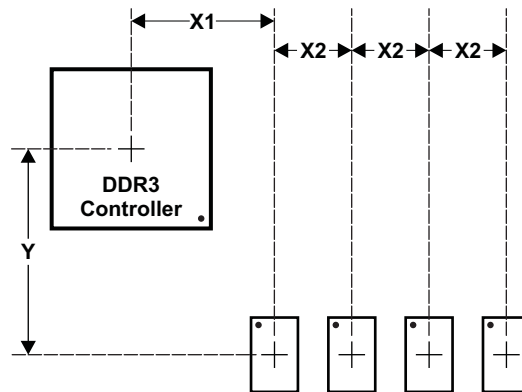
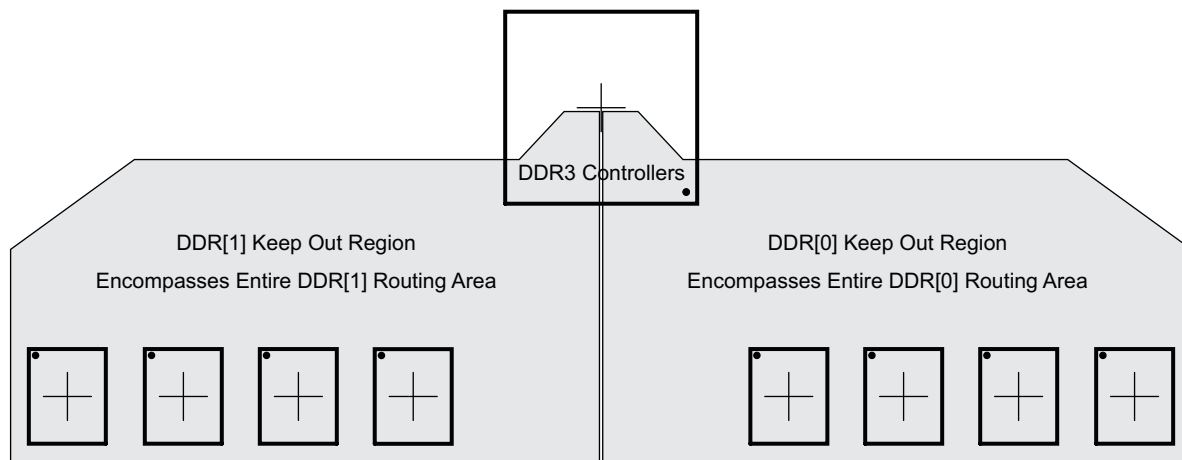

Figure 9-15. Placement Specifications
Figure 9-16. DDR3 Keepout Region
Figure 9-15 shows the required placement for the processor as well as the DDR3 devices. The dimensions for this figure are defined in Table 9-19. The placement does not restrict the side of the PCB on which the devices are mounted. The ultimate purpose of the placement is to limit the maximum trace lengths and allow for proper routing space. For a 16-bit DDR memory system, the high-word DDR3 devices are omitted from the placement.
- (1) For dimension definitions, see Figure 9-15.
- (2) Measurements from center of processor to center of DDR3 device.
- (3) Minimizing X1 and Y improves timing margins.
- (4) w is defined as the signal trace width.
- (5) Non-DDR3 signals allowed within DDR3 keepout region provided they are separated from DDR3 routing layers by a ground plane.
- (6) Note that DDR3 signals from one DDR3 controller are considered *non-DDR3* to the other controller. In other words, keep the two DDR3 interfaces separated by this specification.
The region of the PCB used for DDR3 circuitry must be isolated from other signals. The DDR3 keepout region is defined for this purpose and is shown in Figure 9-16. The size of this region varies with the placement and DDR routing. Additional clearances required for the keepout region are shown in Table 9-19. Non-DDR3 signals should not be routed on the DDR signal layers within the DDR3 keepout region. Non-DDR3 signals may be routed in the region, provided they are routed on layers separated from the DDR signal layers by a ground layer. No breaks should be allowed in the reference ground layers in this region. In addition, the 1.5-V DDR3 power plane should cover the entire keepout region. Also note that the two DDR3 controller's signals should be separated from each other by the specification in Table 9-19, item 5.